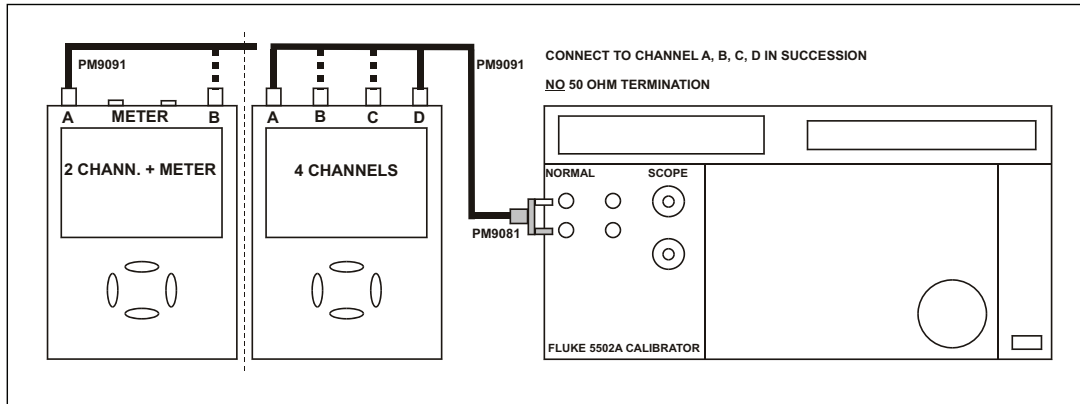

Figure 4-3. Test Tool Inputs A, B to 5502A Normal Output
1. Connect the Test Tool to the 5502A as shown in Figure 4-3. The vertical channels A, B, C, and D are checked in succession so that there is one waveform on the display at a time to facilitate amplitude adjustment.